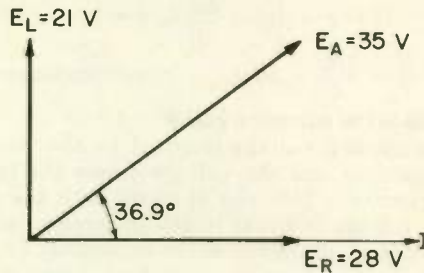

Fig. 33
4. 35Ω . . . Assuming a circuit current of 1 A, the voltage across R is 28 V and that across L is 21 V. By vectorial addition, the applied voltage is 35 V (see Fig. 33).
Using vectorial addition, we find that the applied voltage is 24 V. The vector diagram is similar to the one in Fig. 33.
8 SERIES CIRCUIT IMPEDANCE . . . Notice in Fig. 33 that if we change V to Ω after each of the values on the phasor diagram, the resultant gives us directly the impedance of the series circuit of Fig. 32; see Fig. 34. The value of Z in Fig. 34(b) is simply the hypotenuse of a triangle the legs of which are X_L and R . An impedance triangle for finding the impedance of a series circuit is shown in Fig. 34(c).